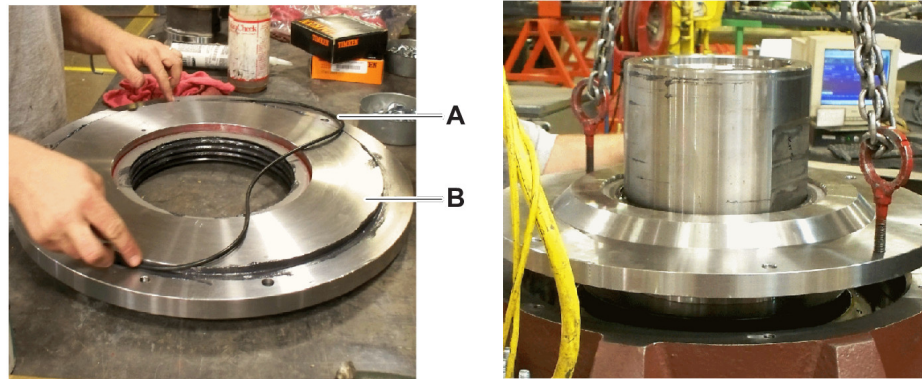

Figure 5
9. Lubricate the O-ring (Figure 5, item A) and position on the mounting shoulder of the lower spindle retainer (item B).